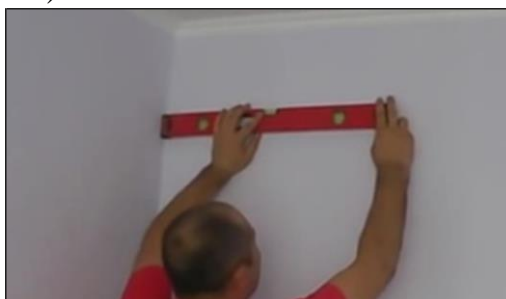

Fig. 16
2. The horizontal position of the mounting line is achieved by means of marking using the level gauge (Fig. 16).